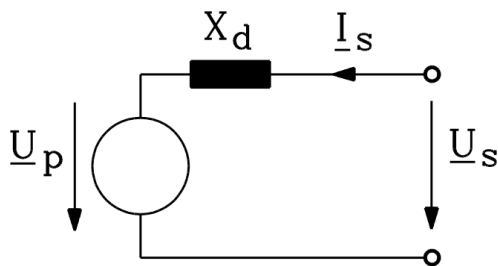

Fig. 3.4-1: Equivalent circuit per phase of round-rotor synchronous machine
2. Linear equivalent circuit diagram Fig. 3.4-1 of a cylindrical-rotor machine: